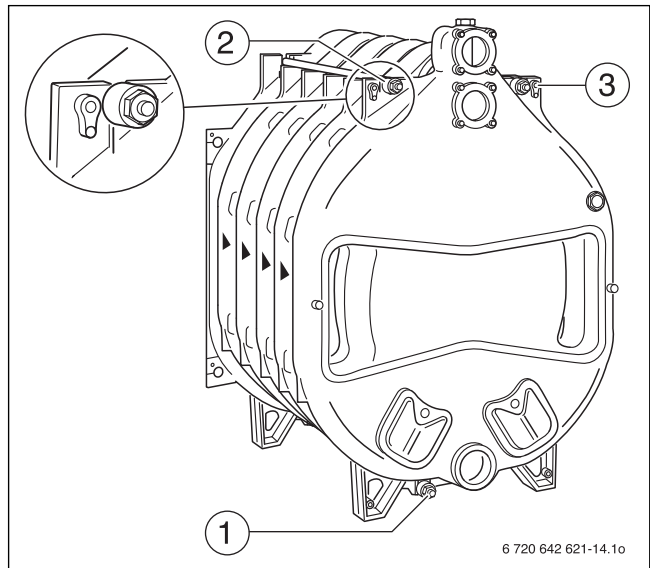

Fig. 19 Fitting the tie rods
- ▶ Insert the three tie rods (with spring packs fitted) into the cast lugs at the designated positions (Fig. 19 [1, 2, and 3]). When inserting the tie rods, make sure the spring packs are mounted on the rear of the boiler.